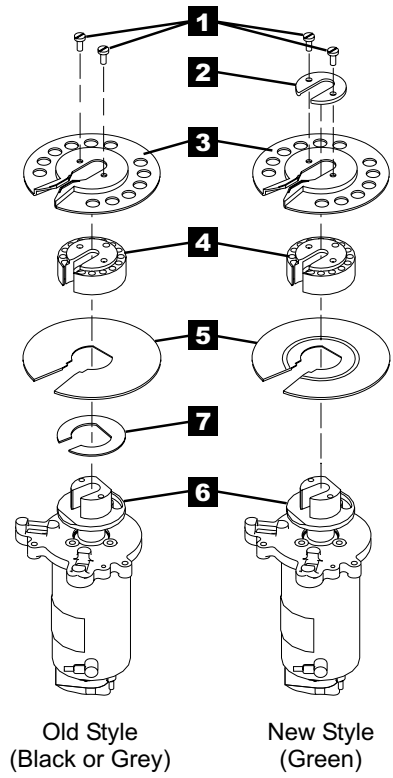

Figure 6. Machine Reel Motor
**Note:** Some later model 3590 drives will have a retainer (item **2** in Figure 6 on page 16) on top of the upper flange. If this retainer is present, remove and discard it.
Refer to Figure 6 on page 16.
- \_\_\_ 2. Place the new lower flange (PN 35L0815) **5** onto the motor hub **6**. Ensure that the groove on lower flange **5** is facing up as shown in Figure 6 on page 16.
- \_\_\_ 6. Now refer to Figure 6 on page 16.